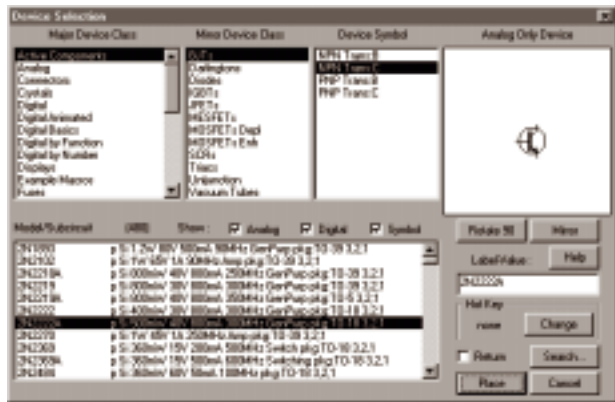

Figure 4.2. The Device Selection dialog box lets you graphically browse and select from a library of several thousand devices.
CircuitMaker comes with a library of several thousand devices (see the Device Library book for a complete list of the devices and instruments). You can select devices (or parts) from the library using the graphical parts browser (see Figure 4.2), HotKey shortcuts or the Device Search feature.
The **Show Analog**, **Digital**, and **Symbol** check boxes in the Device Selection dialog box (see Figure 4.2) let you filter the devices shown to reduce the number of parts to search through.
- 1 In the Device Selection dialog box (Figure 4.2), display the device for which you want to assign a HotKey.